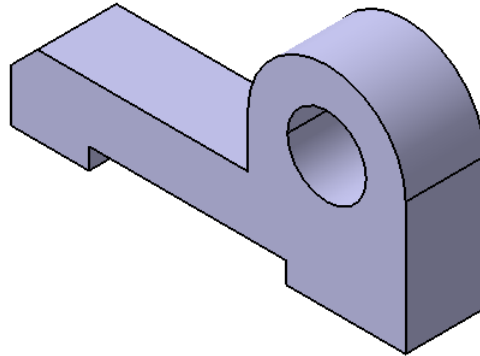

Figure 2-86 The final model for Tutorial 4
4. Orient the view of the model to the isometric view using the **Isometric View** tool from the **View** toolbar. The model after creating the extruded feature is shown in Figure 2-86.